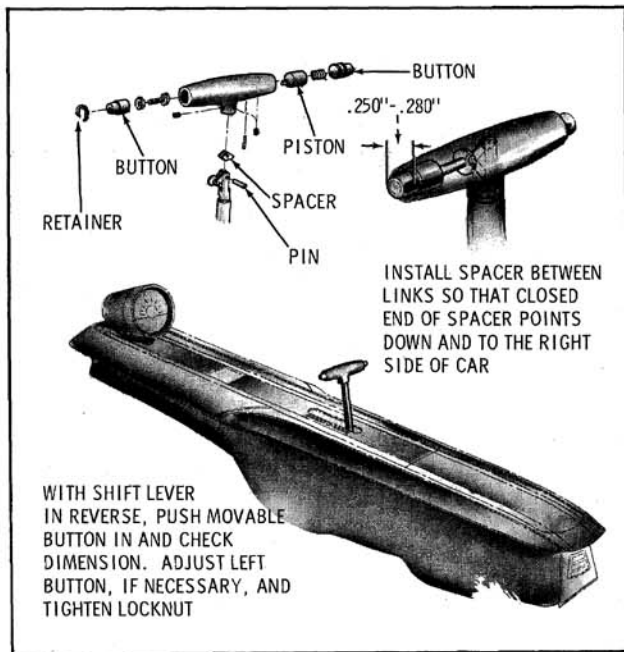

Fig. 12-114 Handle Assembly
3. Loosen set screw from bottom right side of handle assembly, remove button and spring. (Fig. 12-114)
Refer to Fig. 12-114 for assembly and adjustments.